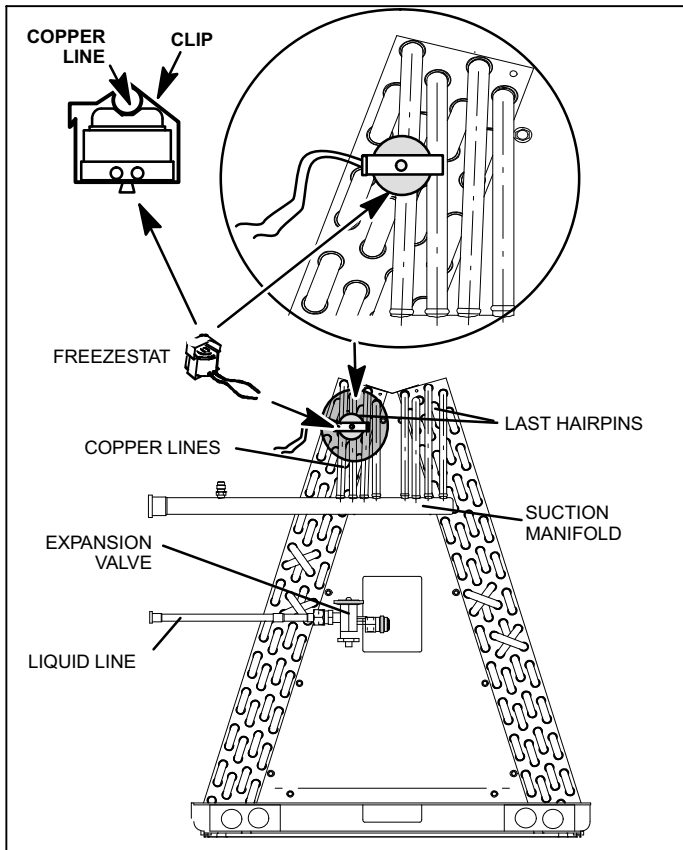

Figure 5. Typical Freezestat Installation (Indoor Coil)
1. A freezestat, sized per table 2 and ordered separately, can be installed. Install the freezestat on one of the copper lines between the last hairpins and the suction manifold (see figure 5) of the indoor coil.